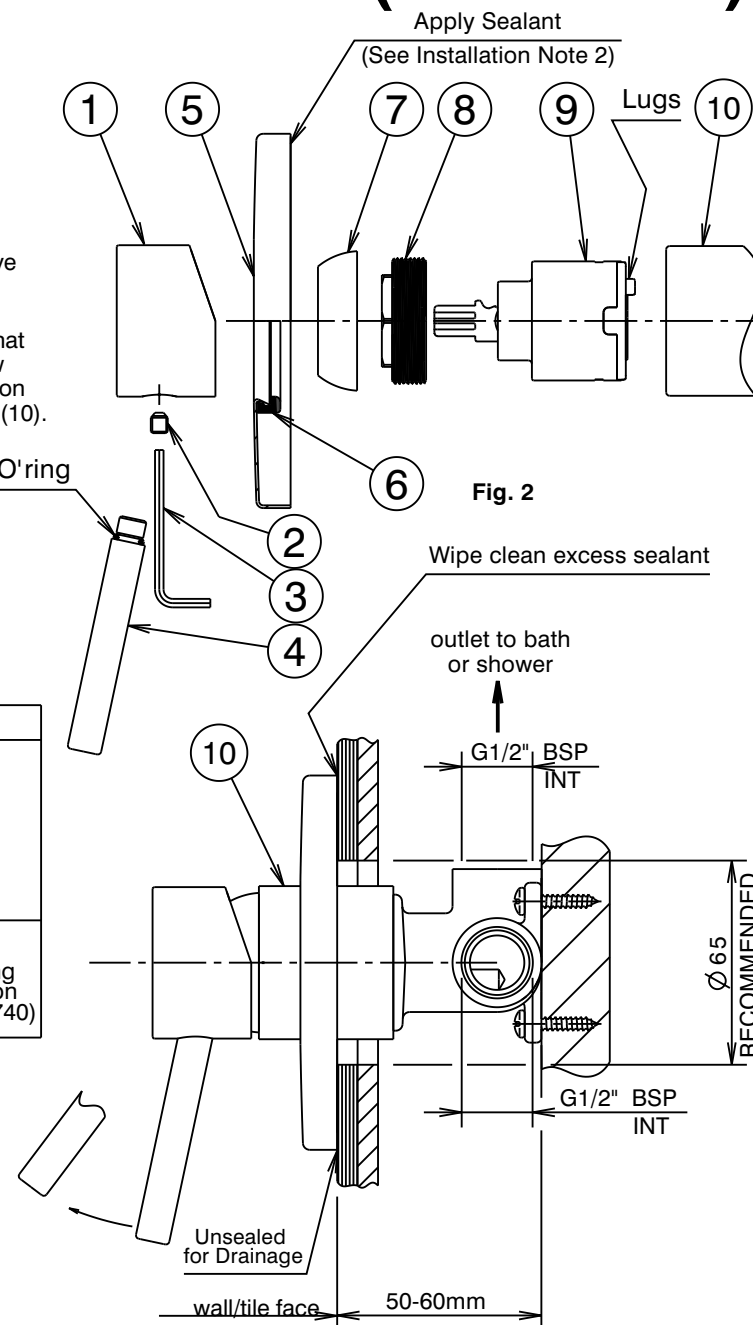

Fig. 1
Installation (Fig. 1 & 2)
- * Mixer body (10) must be installed square to wall/tile face, to ensure cover plate (5) sits flush.
- 2) Apply a suitable clear sealant to the back edge of the cover plate (5), leaving an unsealed section at the bottom for drainage (See Fig. 1). Carefully slide the cover plate (5) together with seal (6) onto the mixer body (10), push firmly against the cover plate (5) until it contacts the wall/tile face & the sealant has formed a waterproof joint. Wipe clean any excess sealant from the chrome surfaces & the wall/tile face (See Fig. 1).
- 3) Fit handle (1) as shown, taking care that it is pushed fully onto cartridge stem, then tighten grub screw (2) using 2.5mm allen key (3). Screw handle lever (4) together with 'O'Ring into handle (1) and tighten firmly by hand taking care not to damage the decorative finish.